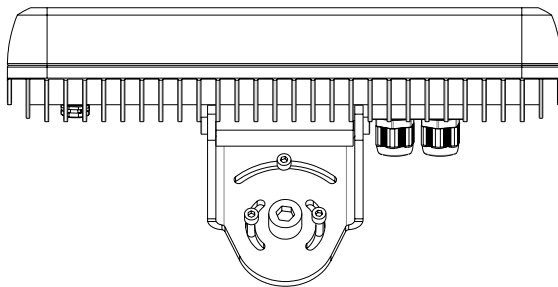

Figure 6: Mounting the Tripix Wash
2. See Figure 6. Installing washers under all screw or bolt heads, fasten an M12 bolt or screw with 12 mm (1/2 inch) thread diameter into the mounting surface through the center hole in the base of the bracket, then fasten three M5 bolts or screws with 5 mm (0.2 inch) shaft diameter into the mounting surface through the curved slots in the base of the bracket.